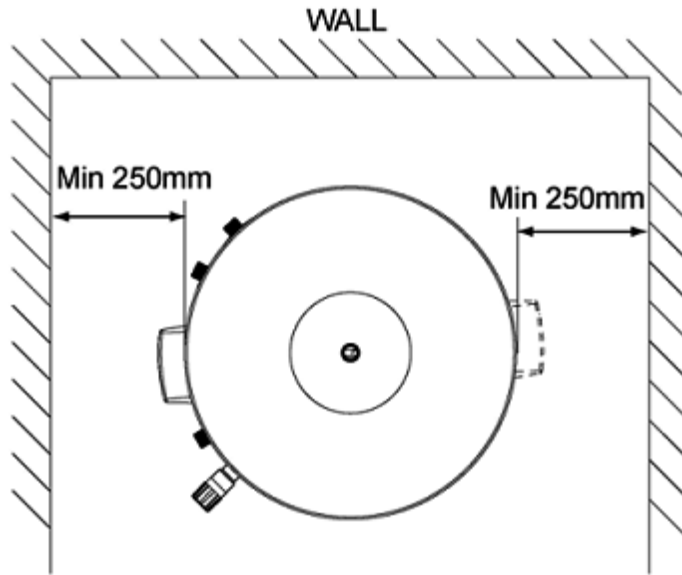

Fig. 01: Siting the Unit
- Access to associated controls and immersion heaters must be available for the servicing and maintenance of the system. Where these controls are installed against a wall a minimum distance of 250mm must be left (see Fig. 01, below).